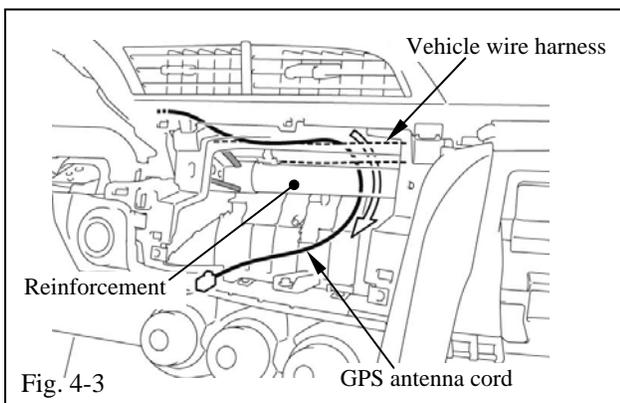

Fig. 4-3
(5) Route the GPS antenna cord along the vehicle wire harness to the navigation system installation location (Fig. 4-3).